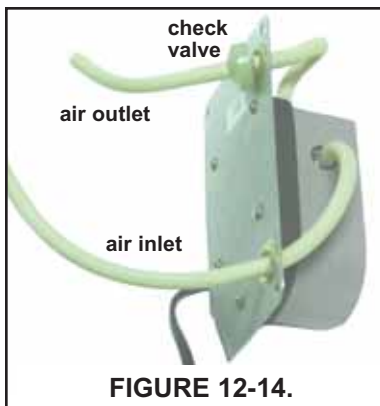

FIGURE 12-14.
4. Disconnect the air inlet and outlet tubing from the air pump. See Figure 12-14.
12. Connect the air inlet and outlet tubing to the air pump. See Figure 12-14. The conical end of the check valve points in the direction of the air flow.